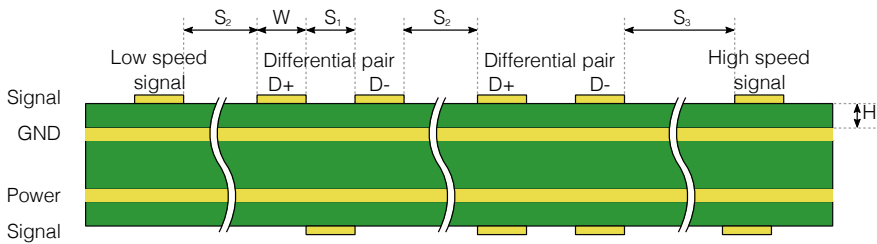

Fig. 19: Spacings of a low speed signal, two differential pairs and a high speed signal
If you are using the USB PHY and/or the MIPI D-PHY, then you should route the differential pair marked D+ and D- carefully in order to ensure signal integrity. The D+ and D- lines are the positive and negative data polarities of a high-speed signal respectively. Their high-speed differential nature implies that they must be coupled and properly isolated. The board design must ensure that the board traces for D+ and D- are tightly matched. In addition, the differential impedance of D+ and D- must meet its specifications. We route MIPI D-PHY signals as loosely coupled pairs. Fig. 19 and the table below shows guidelines on how to space and stack the board when routing differential pairs.
- ▶ High-speed clock and periodic signal traces that run parallel should be at least a distance S_3 away from D+/D- (see Fig. 19 and the table above).
- ▶ Low-speed and non-periodic signal traces that run parallel should be at least S_2 away from D+/D- (see Fig. 19 and the table above).